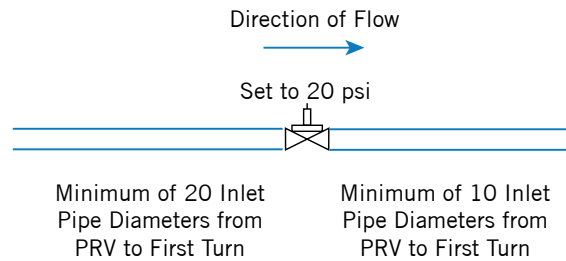

Figure 16. Pressure Regulating Valve
- For units with the water monitoring option, a water regulator will be provided with the unit which will be shipped loose inside the basin. The regulator must be installed before the make up valve and must be sized according to **Figure 16** on **page 16**. If multiple units are ordered one water regulator should be installed per unit.